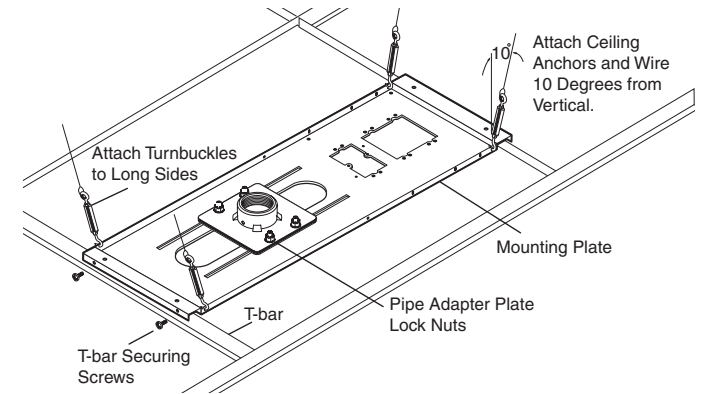

Figure 2 — Installing the PCM 240
1. Screw the four T-bar securing screws loosely into the ends of the mounting plate (see figure 2).
- Attach the four turnbuckles to the long sides of the mounting plate, one near each corner (see figure 2).
NOTE These holes should **not** be drilled directly above where the turnbuckles attach, but offset about 10 degrees out from vertical (see figure 2).
NOTE The eye screws should **not** be screwed in directly above where the turnbuckles attach but offset about 10 degrees out from vertical (see figure 2).